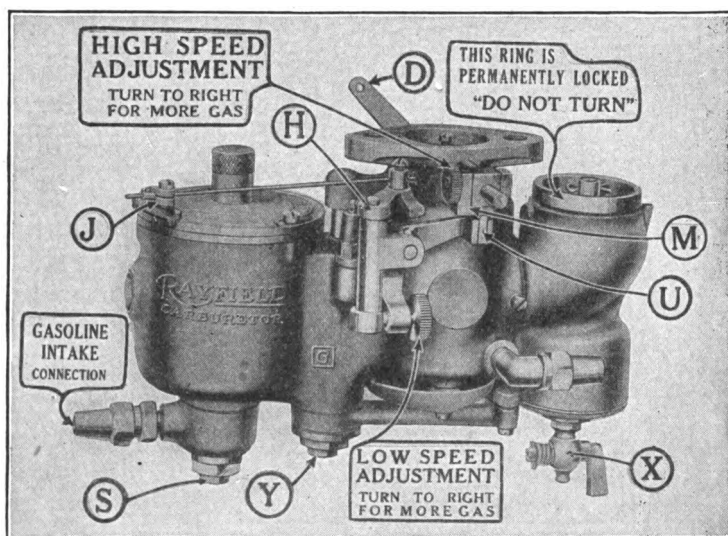

Fig. 103. External View of Rayfield Carburetor, Model "G", Showing Adjustments
*Adjustments.* Referring to Fig. 103, there are but two simple adjustments on the Rayfield; both are made by means of external milled head screws. Before making any adjustments, be sure there are no obstructions in the gasoline line, that all manifold connections are tight and free from air leaks, that valves and ignition are correctly timed, and that there is good compression and a hot spark in all cylinders. These carburetors are generally fitted with dash control.
Always adjust the carburetor with this dash control down. The low-speed adjustment should be made first. To make this, close the throttle and let the dash control down, then close the nozzle needle by turning the low-speed adjustment, Fig. 103, to the left until the block *U* leaves contact with the cam *M* slightly. Then turn to the right about three full turns. Start the motor and allow it to run until warmed up, then push the dash control all the way down, retard the spark, close the throttle until the motor runs slowly without stopping. Now make the final adjustment by turning the low-speed screw to the left until the motor slows down. Next, turn to the right,
**High-Speed Adjustment.** Advance the spark about one-quarter with the motor running, then open the throttle quickly. Should the motor back-fire, it indicates a lean mixture. Correct this by turning the high-speed adjusting screw, Fig. 103, to the right, about one notch at a time, until the throttle can be opened quickly without back-firing. If loading, or choking, is experienced when the motor is running under